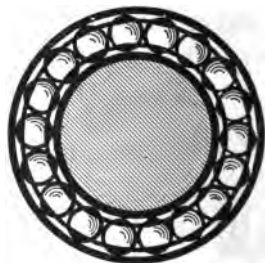

FIG. 130. — Ball bearings.
151. Methods of Reducing Friction. Several methods of reducing friction are in common use. (1) The surfaces of bearings are made of highly polished material. (2) Bearings are often packed with Babbitt metal, an alloy that has a very low coefficient of friction. It is sometimes called anti-friction metal. (3) Ball bearings, or roller bearings, are often used, since rolling friction is decidedly less than sliding friction. See Figs. 130 and 131. Rolling friction is especially low if both surfaces are hard. When one sinks into the other, as a carriage wheel into a sandy road, then